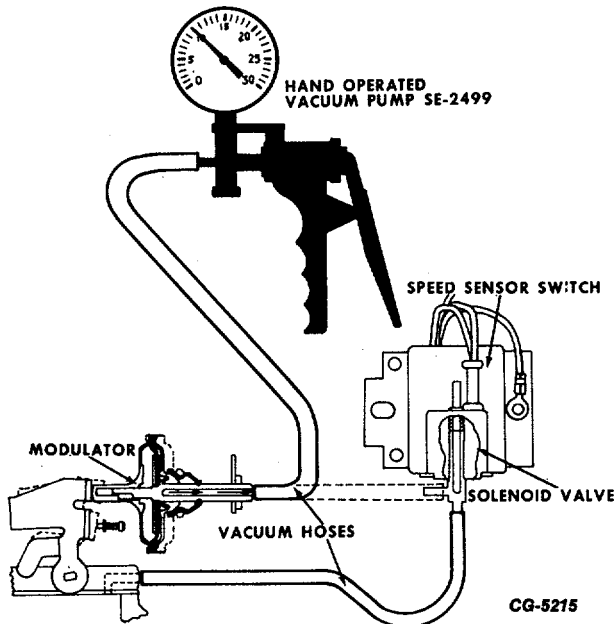

Fig. 61 Modulator Test
- (3) Disconnect vacuum hose from modulator and manually apply vacuum to modulator (Fig. 61). If modulator does not extend, unit is faulty and must be replaced. Allow throttle to close against extended modulator.
- (4) Observe engine speed. For proper speed, see Emission Control Tune-Up Specifications.